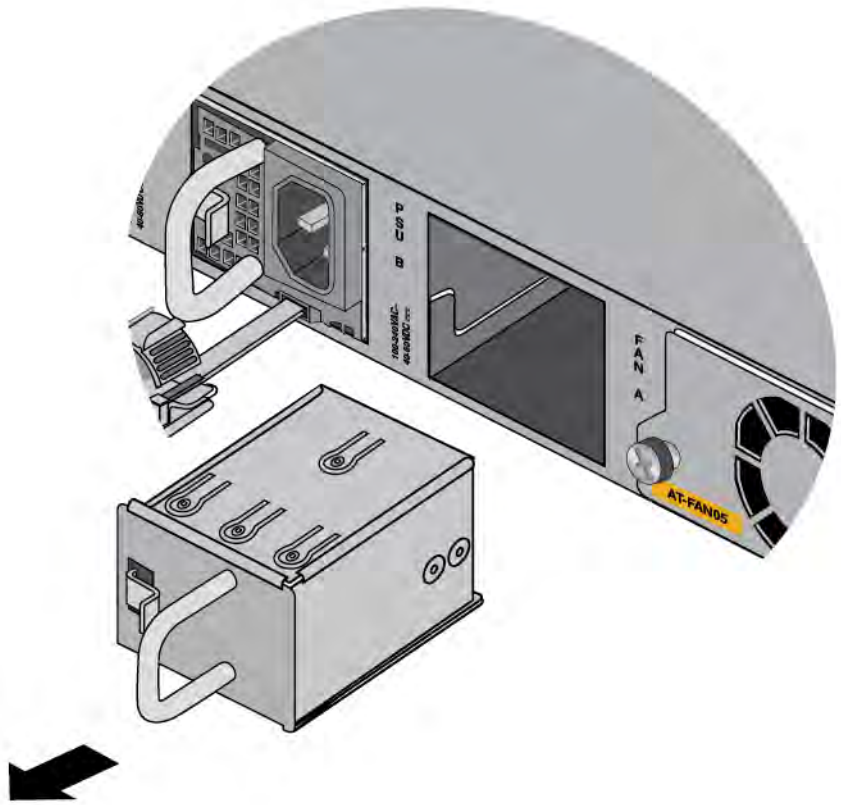

Figure 37. Removing the Blank Power Supply Panel from Slot PSU B
2. If there is already a power supply in PSU A, remove the blank panel from PSU B slot by pressing the release tab to the right and sliding the panel from the switch. Refer to Figure 37 on page 87.